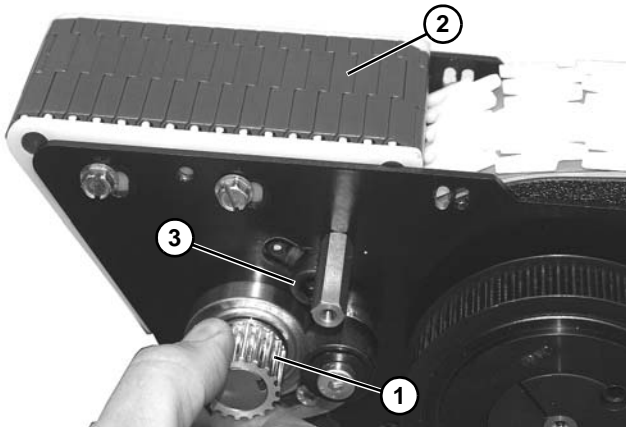

Figure 162
10. Rotate drive shaft (**Figure 162, item 1**) to verify tightness of belt (**Figure 162, item 2**). Belt should turn freely. Loosen idler socket head screw (**Figure 162, item 3**) and adjust, if necessary.